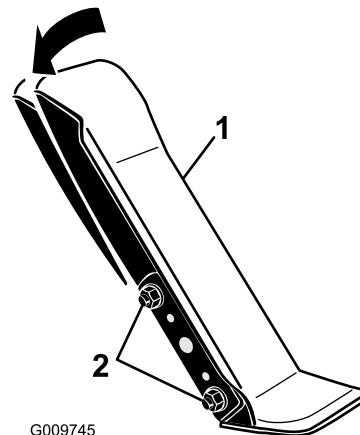

Figure 57
1. Loosen the two nuts and bolts securing the left side of the traction pedal to the bracket (Figure 57).
1. Traction pedal 2. Mounting nuts and bolts (2)
2. Pivot the pedal to the desired operating angle and tighten the nuts (Figure 57).